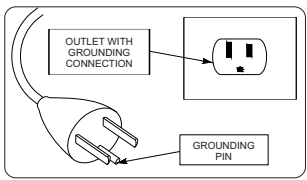

FIGURE 6 - FOR MODELS MSV3, MSV 6 AND CSA 6,5
- The item **16** is supplied for the models MS 3/30, CSA 6,5/30, MSV 6/30 and MSV 6/50 with plug 2P + GR (ground) see Figure 6. For the models MSV 12/175 and MSV 18/250 without the plug, its must be connected to electrical source (electrical starter and fusible) or according with the electrical laws for each country where the compressor will be installed. For the models CSV 15/220, CSV 15/250, CSV 20/220 and CSV 20/250 is responsibility of the user the installation of the compressor to electrical source, including the electrical starter.